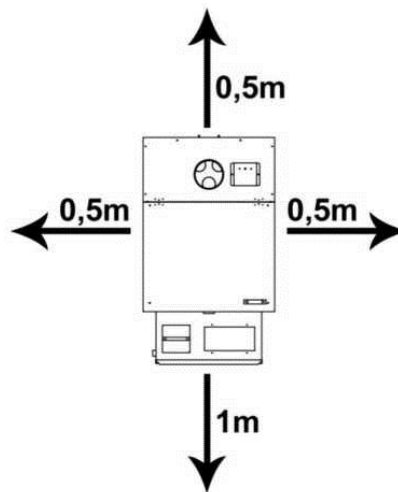

Fig. 2. Minimal safety space around the device.
- place the heater on a flat, concrete floor, in the spot allowing free space around the device, according to Fig. 2.,